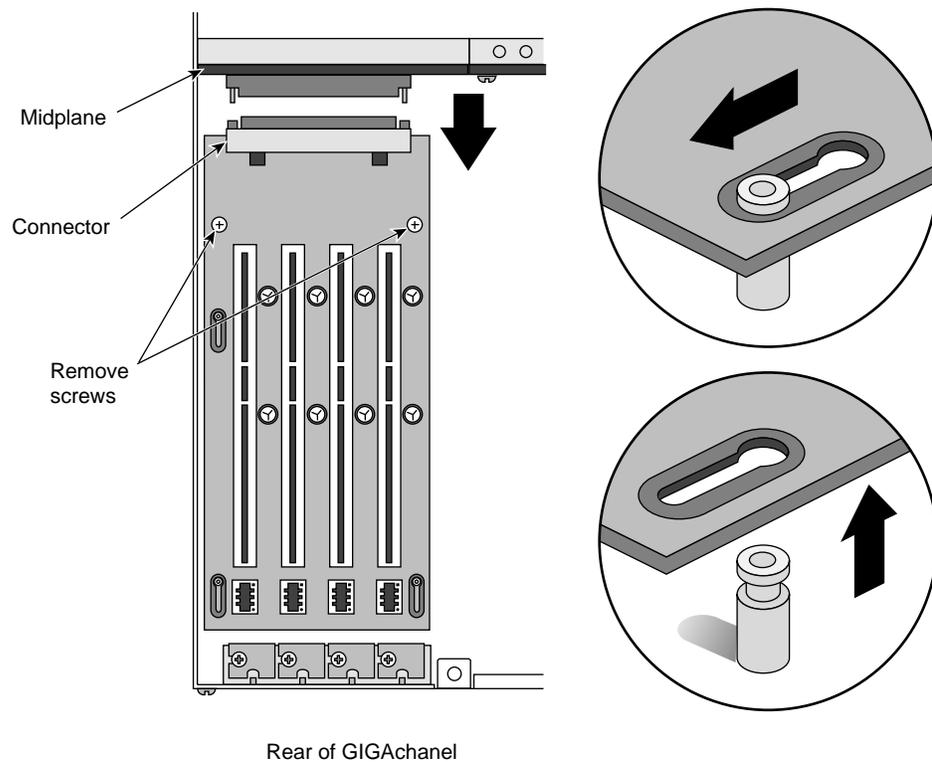

Figure 5-32 Removing the GIGAchanel PCI Backplane
- Remove the two screws, indicated in Figure 5-32.